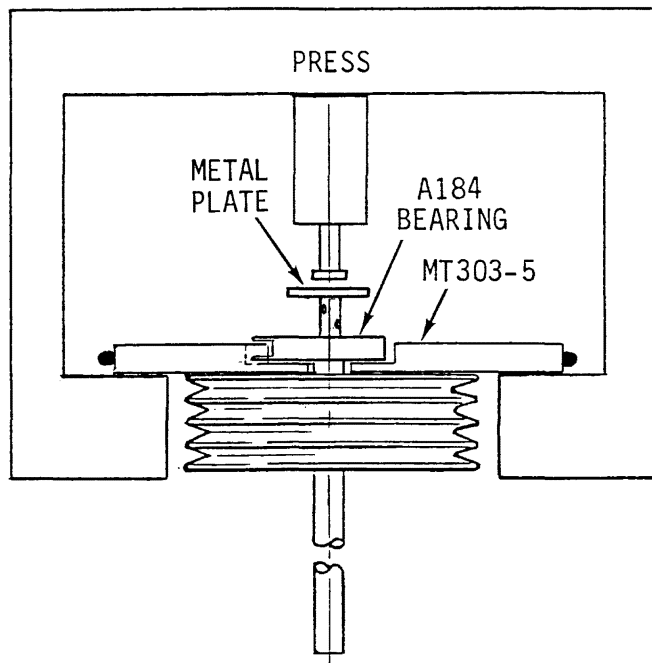

FIGURE 7-3A
- a. Refer to Figures 7-3A and 7-3B. Remove A184 bearing:
1. If a press is available, assemble MT303-5 lower puller assembly between A184 bearing and upper sheave per Figure 7-3A. Press clutch shaft out of bearing.